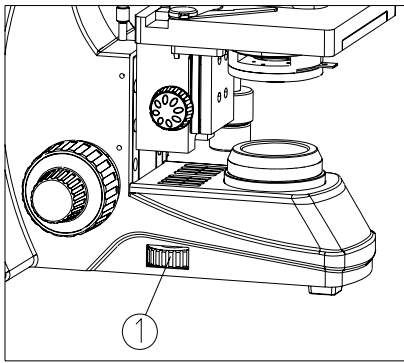

Fig. 7
2. Adjust the light adjustment knob① until the illumination is comfortable for observation. Rotate the light adjustment knob clockwise to raise the voltage and brightness. Rotate the light adjustment knob counterclockwise to lower the voltage and brightness (see Fig. 7).